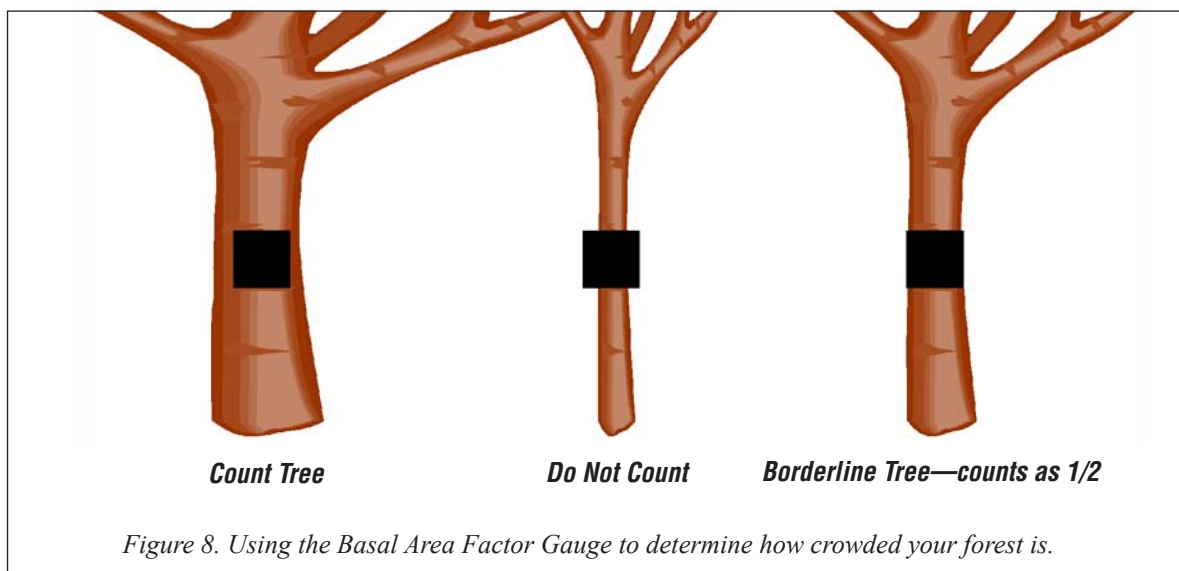

Figure 8. Using the Basal Area Factor Gauge to determine how crowded your forest is.
2. Any tree whose trunk shows on both sides of the black square (i.e. is wider than the square; Figure 8) is counted. Keeping your feet centered over the
same spot, move in a complete circle and tally any tree larger than the gauge. Do not count trees that appear smaller than the width of the square; if a tree appears equal to the width of the square, count it as 1/2 a tree (see Figure 8).